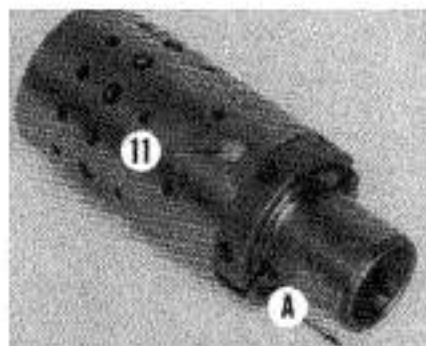

Fig. 25—View of control spool and sleeve assembly. Teflon discs (11) cover outer ends of internal pin. Withdraw spool from sleeve in direction of arrow (A).
To disassemble the removed unit, first remove cap screws (24) and withdraw end plate (23), gear set (21), spacer (20) and drive link (19) as a unit. Unbolt and remove upper housing (5) and input shaft (1) as a unit. Withdraw the control spool and sleeve (17) as a unit from bottom end of housing. Remove Teflon discs (11), then push pin (10) and centering springs (9) out of sleeve. Carefully slide spool (splined end first) from sleeve (Fig. 25). Insert a bent wire through port in valve body and push plug (12—Fig. 24) from body, then remove check valve seat (14) using an Allen wrench. Remove check ball (15) and spring (16).